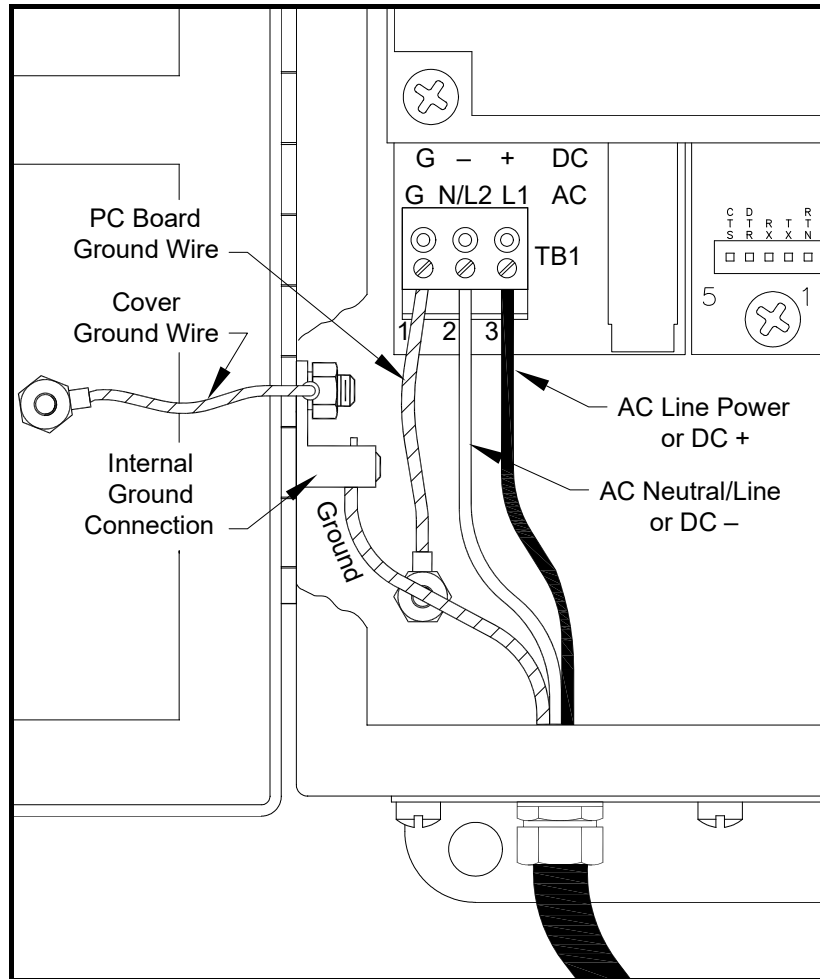

Figure 1-35: Wiring the Line Power
Refer to Figure 1-35 on page 1-25 or Figure 1-42 on page 1-43 to locate terminal block **TB1** and connect the line power as follows:
3. Connect the ground lead to the internal ground connection located on the side panel of the enclosure (see Figure 1-35 below).
4. Connect the neutral or line lead (or the negative – DC power lead) to TB1-2 and the line power lead (or the positive + DC power lead) to TB1-3 as shown in Figure 1-35 below.